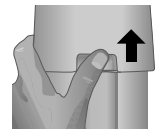

Figure S.1
1. Place hands on each side of the monitor and lift up to the highest position. Remove the cable cover (**Figure S.1**).